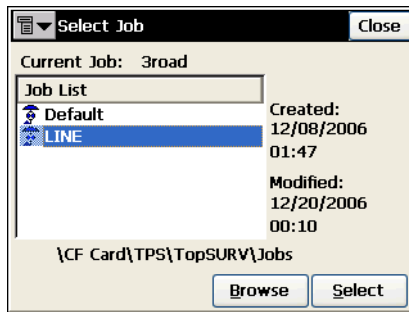

Figure 5-1. Select Job
2. In the *Select Job* screen, highlight the name of the job file in the Job List or tap **Browse** to select the Job file from the disk, then tap **Select** (Figure 5-1).